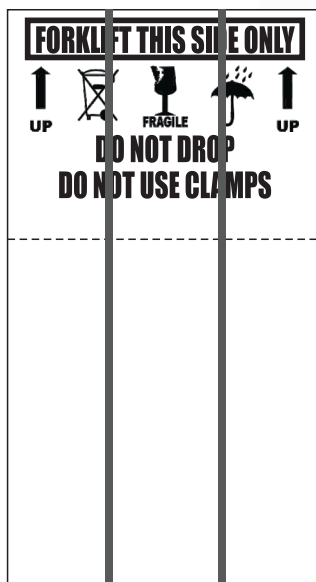

Fig. 1a The "FORKLIFT THIS SIDE ONLY" side of the box
1. Set the box upright with the "FORKLIFT THIS SIDE ONLY" label facing towards you (Fig. 1a).